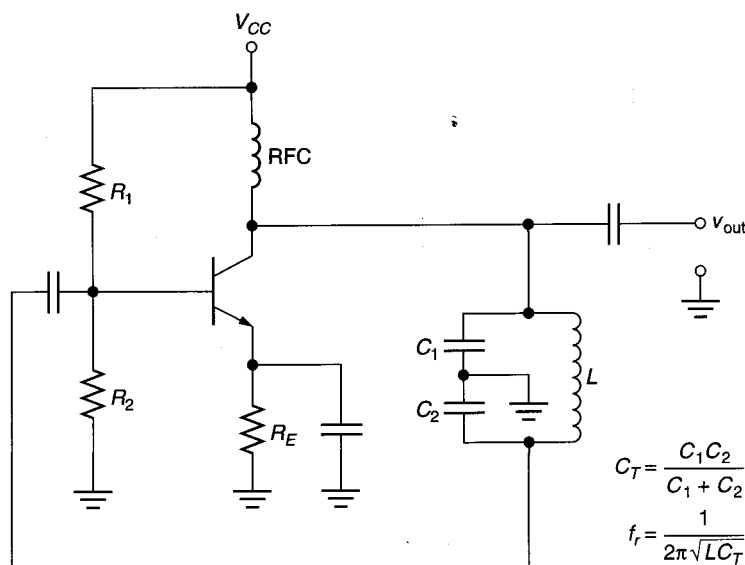
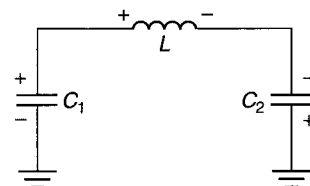

FIGURE 18.10 Colpitts oscillator (common-emitter configuration).
FIGURE 18.12
The **Colpitts oscillator** is a discrete *LC* amplifier that uses a pair of *tapped capacitors* and an inductor to produce the regenerative feedback necessary for oscillations. The Colpitts oscillator is shown in Figure 18.10. As you can see, the transistor is in a common-emitter configuration. Since this configuration produces a 180° voltage phase shift from base to collector, the feedback network must also produce a 180° voltage phase shift if the feedback is to be regenerative.
**Lab Reference:** The operation of an oscillator like the one in Figure 18.10 is demonstrated in Exercise 30.
The key to understanding the *Colpitts oscillator* is knowing how the feedback network produces a  $180^\circ$  voltage phase shift. The feedback network in Figure 18.10 is made up of  $C_1$ ,  $C_2$ , and  $L$ .
The phase relationship between  $v_{out}$  and  $v_f$  is caused by the *current* action in the feedback network. This action can be seen if we redraw the feedback network as shown in Figure 18.12. By comparing the circuit shown in Figure 18.12 with the feedback network in Figure 18.10, you can see that the circuits are identical. Now, let's assume for a moment that  $L$  has a voltage across it with the polarities shown. If we view  $L$  as the voltage source, it is easy to see that it produces a current in the circuit. This current develops voltages across  $C_1$  and  $C_2$  with the polarities shown. As you can see, these voltages are  $180^\circ$  out of phase. If you reverse the voltage polarity across  $L$ , all polarity signs and current directions reverse, but the voltages across  $C_1$  and  $C_2$  are still  $180^\circ$  out of phase.